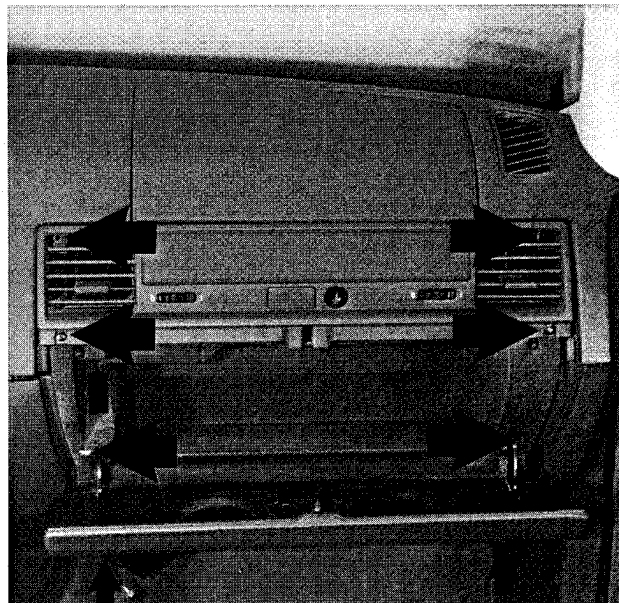

Fig. 2. Glove compartment mounting screws (arrows).
2. Remove glove compartment mounting screws. See Fig. 2.